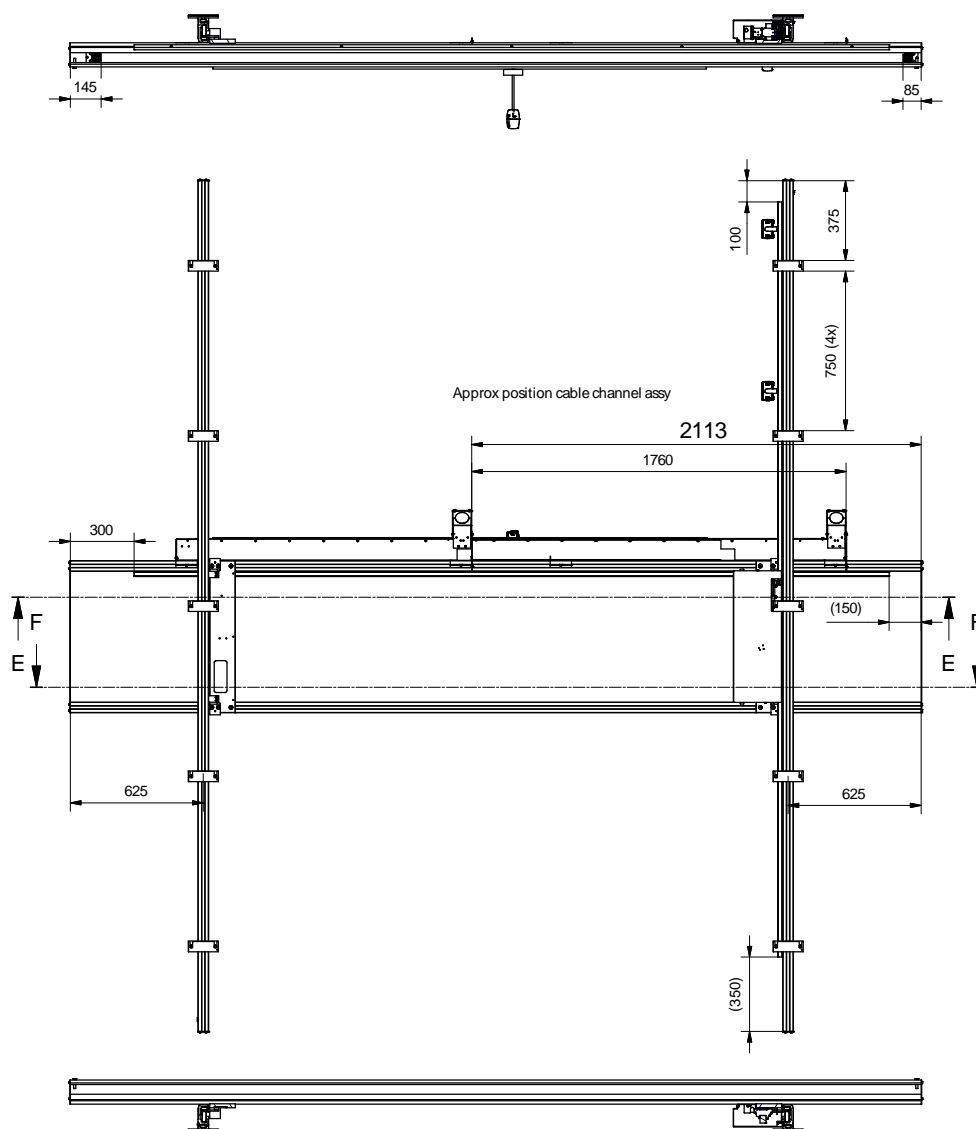

Fig. 4-24 Measurements for rails, 4x4 m
4. Adjust the length of the cable channel according to **Fig. 4-24** by pushing one part of the channel into the other. It shall be locked in a later step of the mounting.